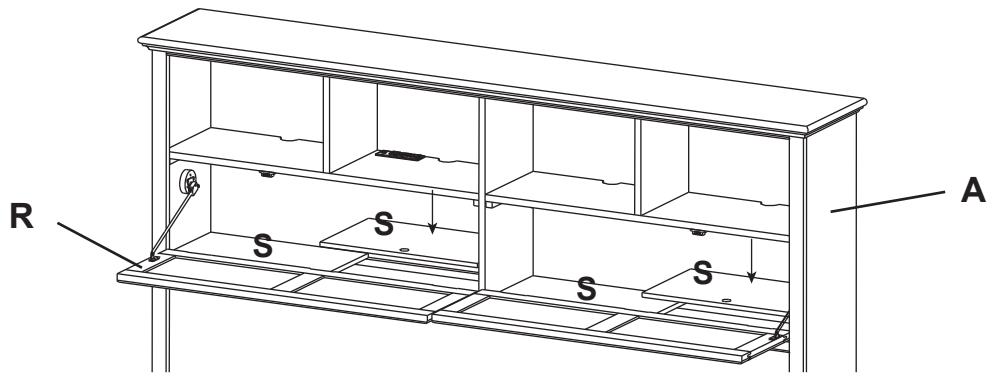

Fig. 17
- 17.** Unwrap the False Bottoms (S) and place them on top of the rails in the Headboard Assembly (A). Make sure the finger holes face forward as shown in Figure 17.